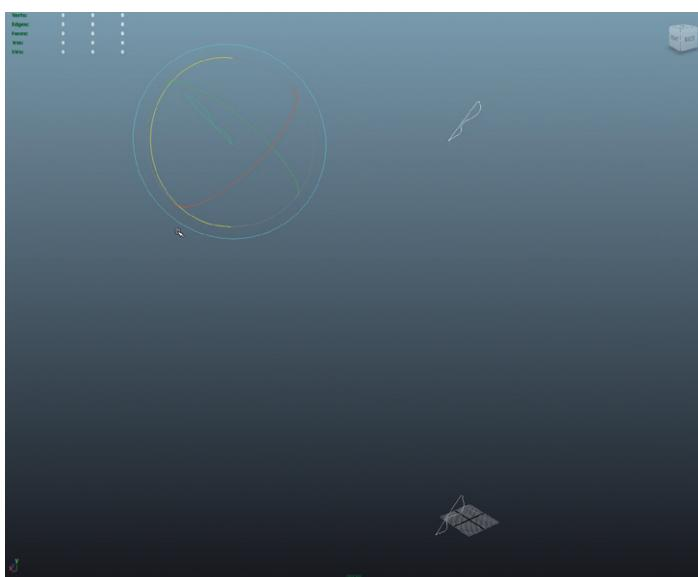

FIG 3.81 Duplicated and moved curve #3.
Step 18: Duplicate curve #2, slide it (curve #3) over and rotate another 90°, so that it mirrors curve #2 (Fig. 3.81).